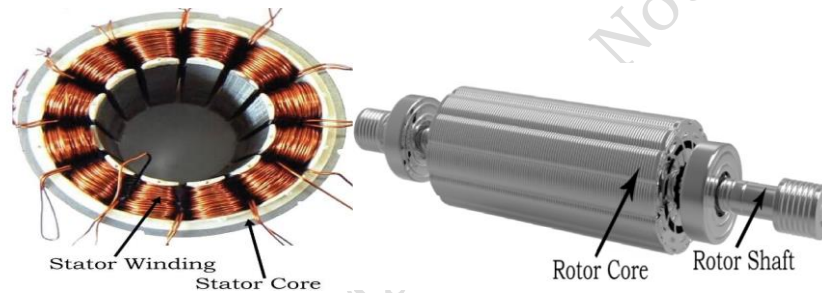

Fig. 3.44 Brushless DC motors
B. Brushless DC Motor – A brushless DC or BLDC motor, also known as an electronically commutated motor (ECM) or a synchronous DC motor. It is an electric motor that operates using electronic commutation instead of brushes and a commutator. Figure 3.44 illustrates the various parts of a brushless DC motor.